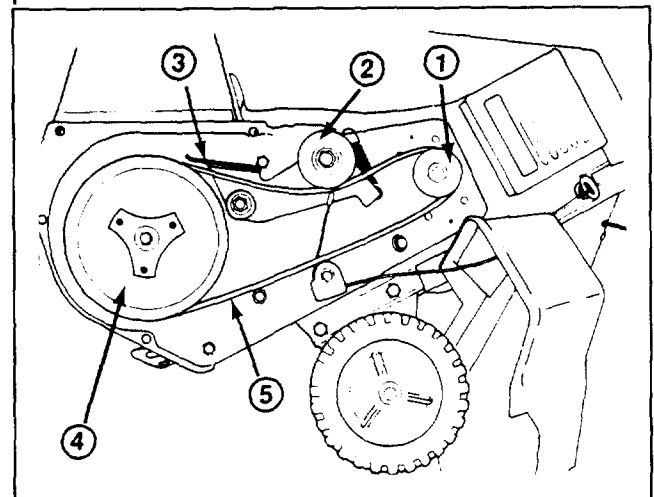

Figure 14
5. REMOVING BELT (Fig. 14) — Slip belt off idler pulley. Push idler pulley downward, and slip belt from rotor pulley, idler pulley, and engine pulley.
6. INSTALLING BELT (Fig. 14) — Loop belt around rotor pulley and engine pulley first without slipping belt between rotor pulley and brake. Next, push idler pulley downward and slide belt between rotor pulley and brake. Release idler pulley, and slip belt under idler pulley.